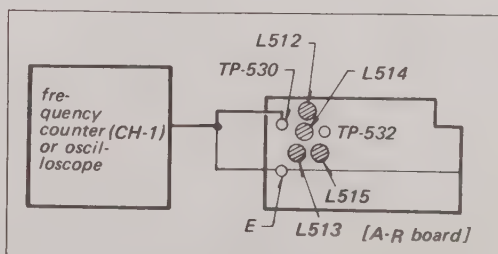

Fig. 8-17. Color APC adjustment test setup (3)
8. Connect a frequency counter to TP-530. See Fig. 8-17.